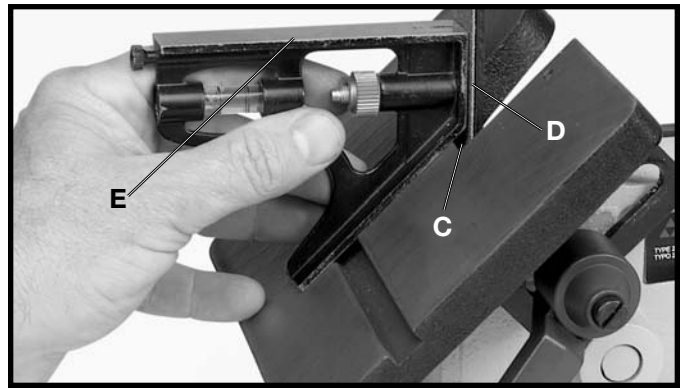

Fig. 27
The table can be tilted 45 degrees to the front, as shown in Fig. 27, by loosening lock lever (B). Using a combination square (E) check to see if the table is at 45 degrees to the belt and tighten lock lever (B).